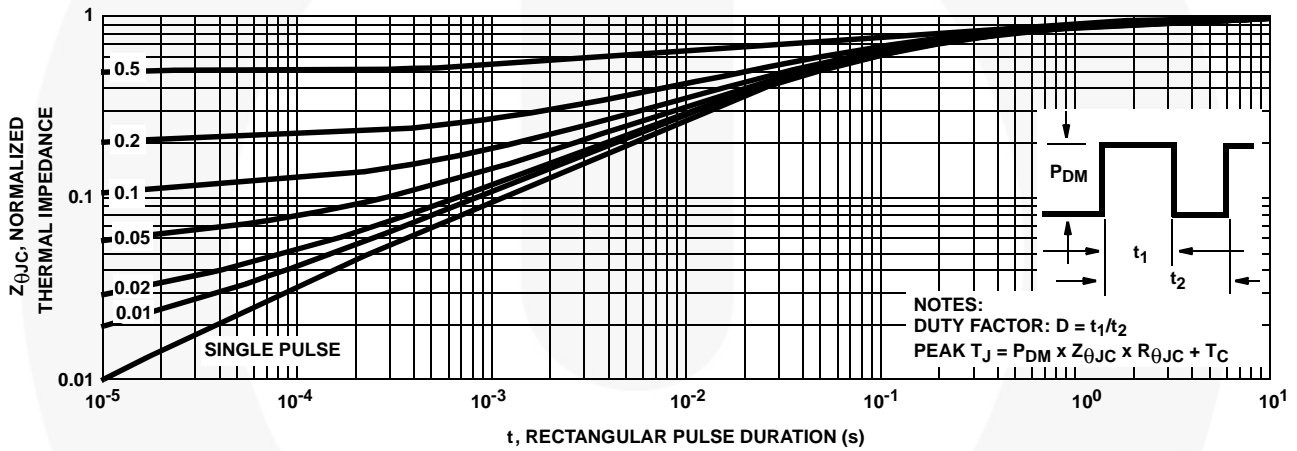

FIGURE 3. NORMALIZED MAXIMUM TRANSIENT THERMAL IMPEDANCE
3. Repetitive rating: pulse width is limited by maximum junction temperature. See Transient Thermal Impedance curve (Figure 3) and Peak Current Capability Curve (Figure 5).